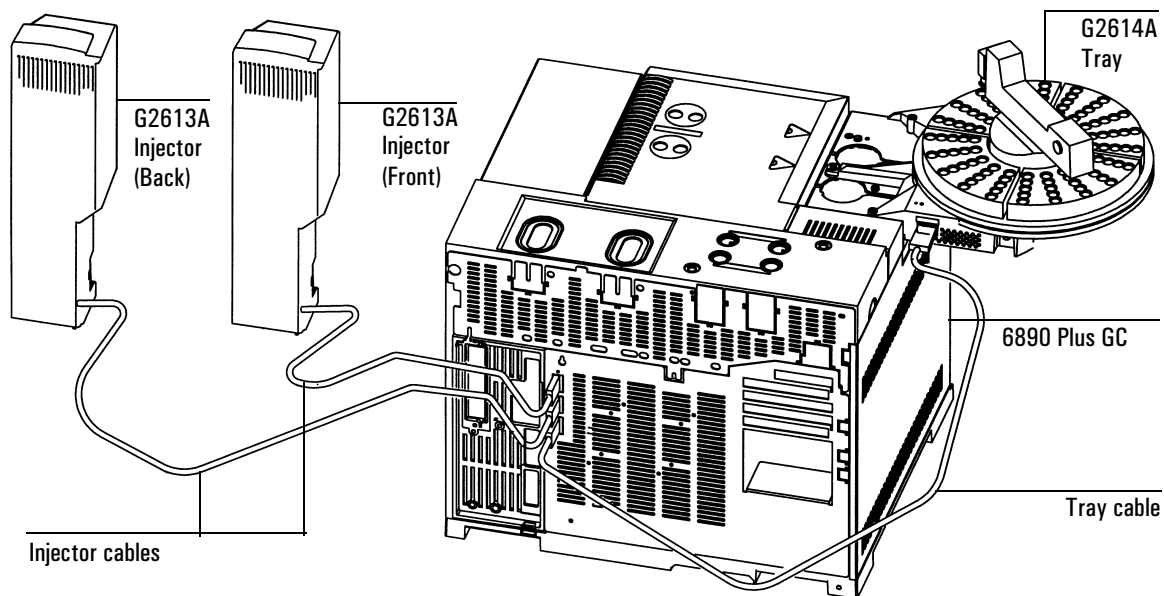
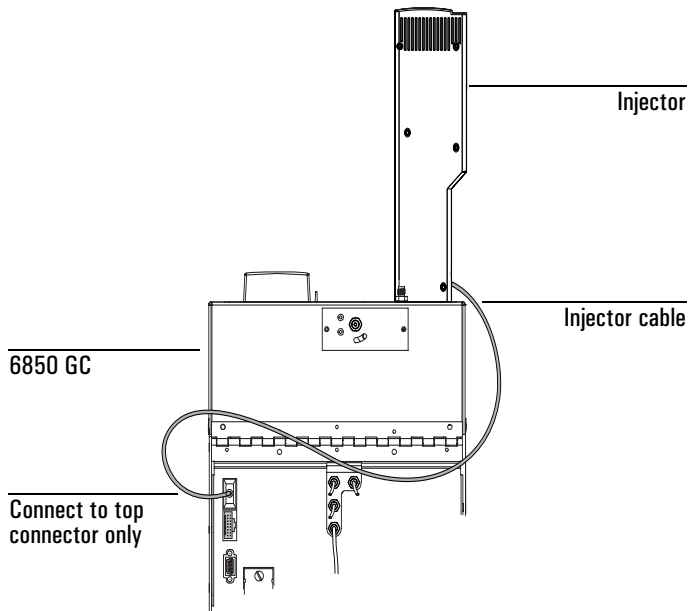

Figure 7 7683 Automatic Liquid Sampler cabling for 6890 Plus
Figure 8 7683 Automatic Liquid Sampler cabling for 6850
1. Connect the injector(s) to the GC. Use the tray cable, part number G2614-60610, to connect the tray to the use GC. See Figure 7 or Figure 8.